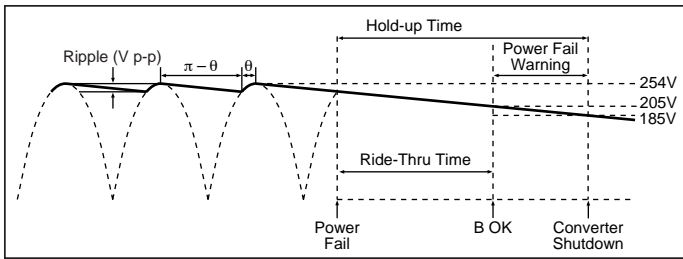
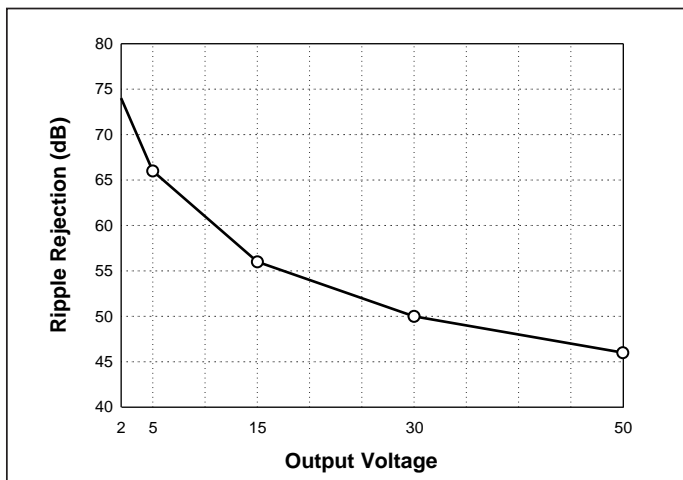

Figure 12—Hold-up time
Figure 16—Converter ripple rejection vs. output voltage
**Hold-up Capacitors.** Hold-up capacitor values should be determined according to output bus voltage ripple, power fail hold-up time, and ride-through time. (See Fig. 12). Many applications require the power supply to maintain output regulation during a momentary power failure of specified duration, i.e., the converters must hold-up or ride-through such an event while maintaining undisturbed output voltage regulation. Similarly, many of these same systems require notification of an impending power failure in order to allow time to perform an orderly shutdown.
The holdup time ( $\Delta t$ ) is defined as the interval between power fail warning (B OK) and converter shutdown (EN) as illustrated in Fig. 12. The Bus-OK and Enable thresholds are 205V and 185V, respectively. A simplified relationship between hold-up time, operating power, and bus capacitance is obtained by inserting these constants:
For example, a converter whose output is 15V and nominal input is 300V will provide 56dB ripple rejection, i.e., 10V p-p of input ripple will produce 15mV p-p of output ripple. (See Fig. 16) Equation 3 is again used to determine the required capacitance. In this case,  $V_1$  and  $V_2$  are the instantaneous values of bus voltage at the peaks and valleys (see Fig. 12) of the ripple, respectively. The capacitors must hold up the bus voltage for the time interval ( $\Delta t$ ) between peaks of the rectified line as given by:
**DC-DC Converter.** Fig. 16 is used to determine the ripple rejection of the DC-DC converter and indicates a ripple rejection of approximately 60 dB for a 12 Volt output. If the ripple on the bus voltage is 12Vac and the ripple rejection of the converter is 60 dB, the output ripple of the converter due to ripple on its input (primarily 120Hz) will be 12 mV p-p. Note that 2nd Generation converters have greater ripple rejection than either VI-200s or VI-J00s.